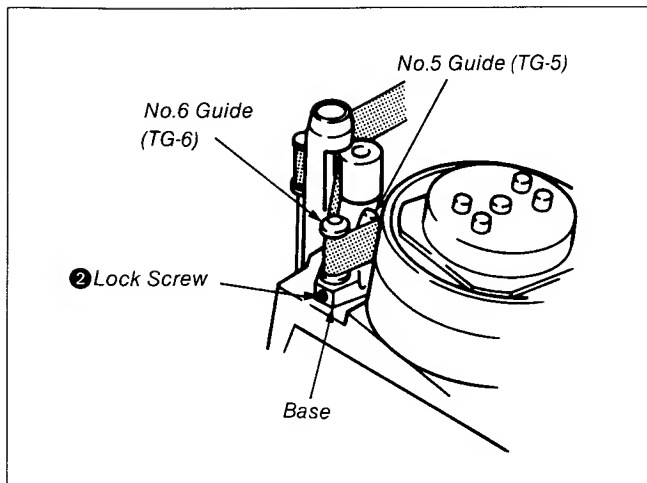

Fig. 8-57.
- 4) Loosen the lock screw ❷ of the No.6 guide (TG-6) and turn the No.6 guide to make flat the waveform at the outlet side. (Refer to Fig. 8-57.)
- 1) Play back the tracking alignment tape, and turn the track shift knob of the track shift & monitor jig in the counter clockwise direction to adjust the amplitude of the RF waveform to two-thirds of its maximum. (Refer to Fig. 8-57.)
When tightening the lock screw of the No.6 guide, turn the lock screw with the base gently held down lest the tip of the No.5 guide (TG-5) should touch the drum. (Refer to Fig. 8-57.)